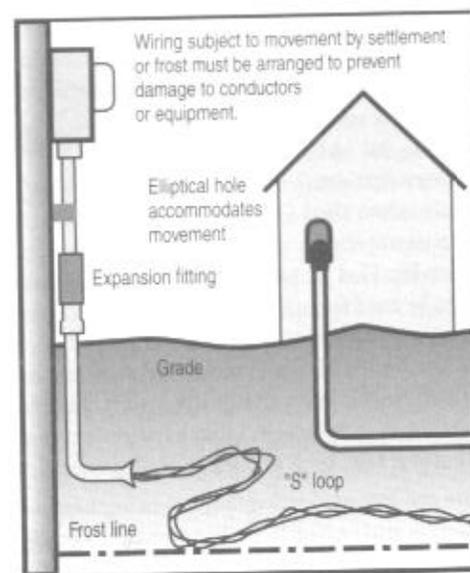

Fig. 17-9 Support hardware and expansion fitting for RNC that will be exposed to outdoor conditions.
Protecting with conduit at ground level Wherever underground cable emerges from the ground, the above-ground portion must be specially protected against physical damage. Run the cable through conduit starting below grade. Install a conduit bushing at the bottom to protect the cable against damage from possible sharp edges where the conduit was cut. Where the cable enters the conduit, provide a short vertical S-curve in each wire to help prevent damage as the earth settles or moves under the action of frost. In addition, be sure to place an expansion fitting at the end or make other arrangements to accommodate the effects of ground movement on the conduit riser. As illustrated in Fig. 17-9, NEC 300.5(J) requires this to prevent riser movement through frost heaving or ground settlement from pushing through concentric knockouts or doing other damage.
For RNC the movement resulting from ordinary outdoor temperature changes cannot be safely accommodated with conventional fittings over even comparatively short distances. Such movement is enough to break out concentric knockouts, break enclosures free of their supports, and do other damage. The *NEC* insists on expansion fittings for this material if you expect it to exceed more than 1/4 inch in total expansion/contraction between fixed points—that amount of movement would occur over less than a single 10-foot conduit length in most climates. Plan on installing these fittings routinely on all outdoor or barn installations unless the basic arrangement accommodates the movement in other ways. For example, for a straight RNC service riser (assuming the service head doesn't butt against the roof) no expansion fitting would be required. However, the appropriate mounting hardware must be used so this movement can occur safely. This movement is also beyond the anticipated effects of ground movement, covered in "Protecting with conduit at ground level" earlier in this chapter, although one properly installed expansion fitting could usually cover both requirements. Figure 17-9 illustrates these points.